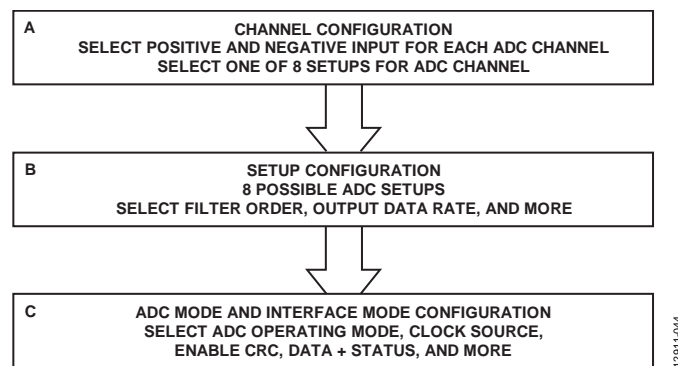

Figure 45. Suggested ADC Configuration Flow
Figure 45 shows an overview of the suggested flow for changing the ADC configuration, divided into the following three blocks:
- Channel configuration (see Box A in Figure 45)
- Setup configuration (see Box B in Figure 45)
- ADC mode and interface mode configuration (see Box C in Figure 45)